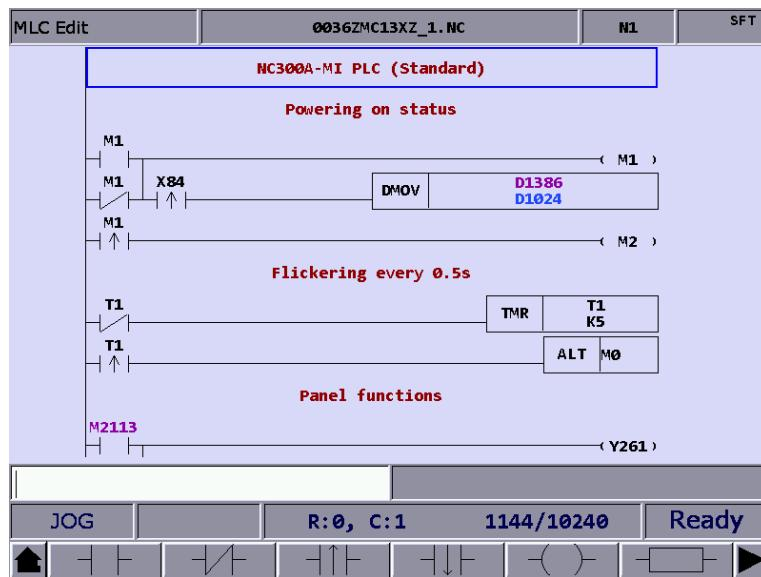

Figure 9.3.5.1
Basic MLC commands, including LD, LDI, LDP, LDF, OUT, APP, —, and | , are created with the function of MLC editing, as shown in Figure 9.3.5.1.
- (1) Press **DGN** to enter the DGN screen.
- (2) Press **MLC** to display the function bar in the second layer.
- (3) Press **EDITOR** to enter the MLC Edit screen as shown in Figure 9.3.5.1.
- (4) Press **↑**, **↓**, **←**, and **→** to move the cursor to the field to be edited.
- (5) Enter the device name and press **LD** to complete creating the device.